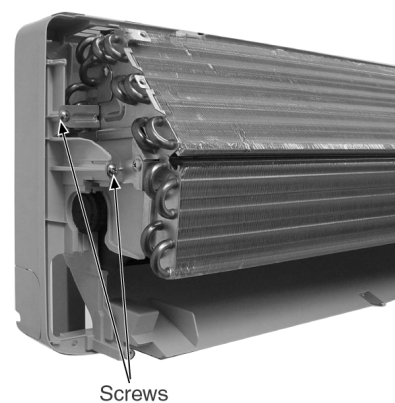

Fig. 8
- Remove the screws at the left of the Evaporator. (Fig. 8)